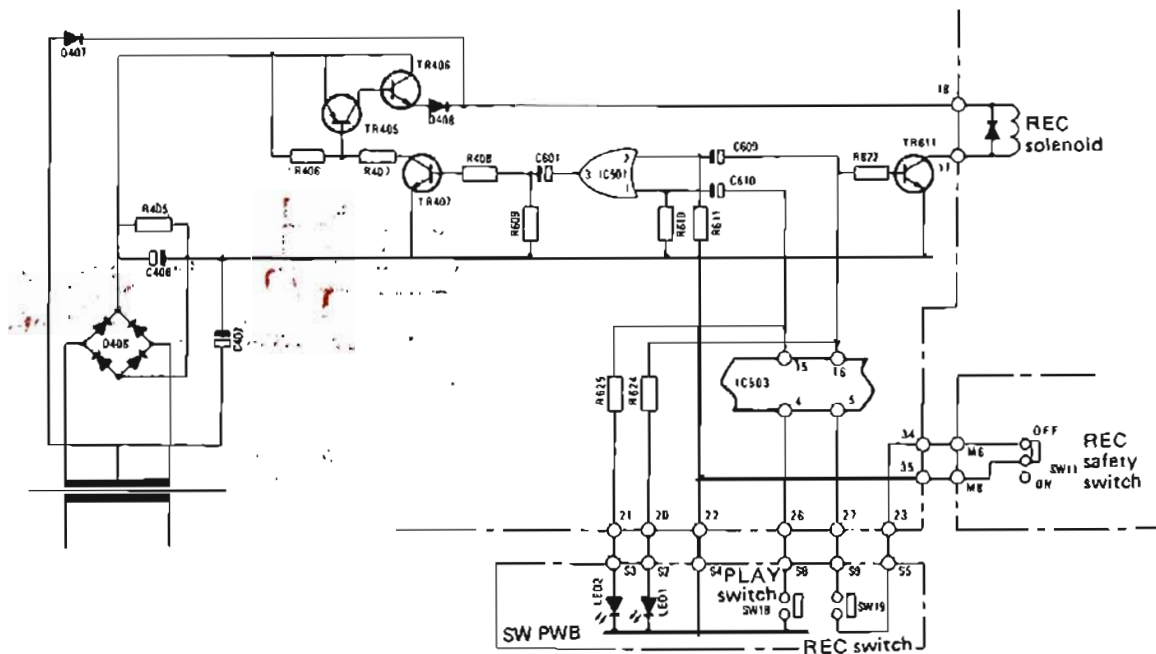

Fig. 4
## 2. REC-mode operaiton (Refer to Fig. 4.)
Pins (15) and (16) of IC503 are connected to pins (1) and (2) of IC501 through CR circuits, whose time constant is such that, at the moment the level of pins (15) and (16) jumps to "H" (5.6 volts), the level of pins (1) and (2) begins to fall gradually from its "H" level (5.6 volts) and the level of pin (3) jumps to "H" (5 volts). These changes are illustrated by waveforms (c), (d) and (e) of Fig. 4.
of Fig. 4) applying to the base of TR407 through R408. By this signal, TR407 turns on to drive down the base of TR405. Consequently, TR405 and TR406 are switched on to impress +34 volts to REC solenoid: this energization of REC solenoid is momentary.
Three transistors, TR405 ~ TR407, serve as the means of high-current energization of REC solenoid during the short interval in which both PLAY and REC key switches are pressed. When either switch is released, TR406 turns off to shut off +37 volts applying to REC solenoid but this solenoid remains energized from the +16.5-volt source if REC switch is kept in pressed-down condition, as will be noted in waveform (f), Fig. 4.